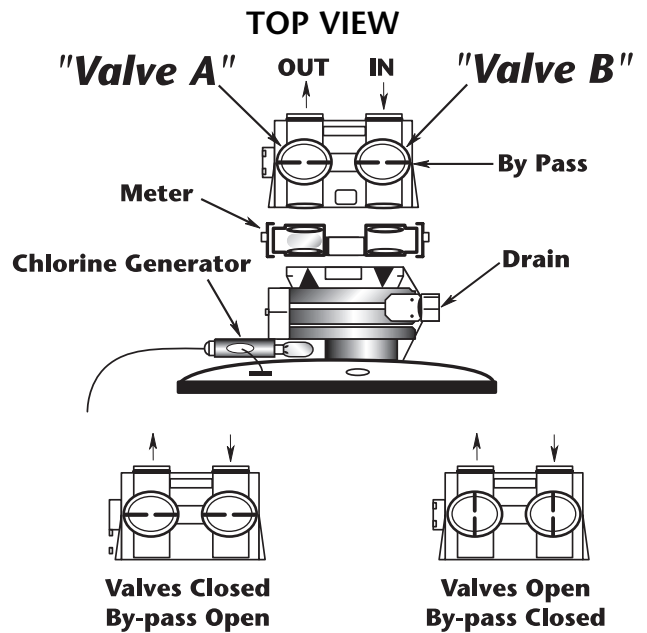
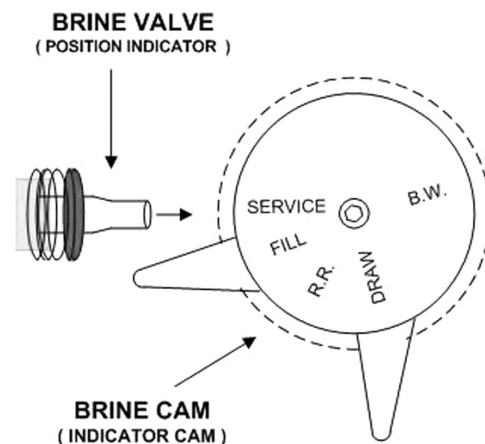

Figure 3
Figure 5
2. Install the chlorine generator on the brine valve (*Fig. 3*) by pulling the brine clip, inserting the generator and resealing the clip. Plug generator's electrical end into receiving adaptor in the back plate. Do not install brine line at this time.
3. Install meter and bypass, if ordered, (*Fig. 3*) using silicone grease provided on "O" Rings. Extra "O" Rings have also been provided in case a tear occurs during installation.
NOTE: Meter should be installed between the control valve and the bypass with the meter "turbine" being installed on the outlet side of the control valve (*Fig.3*).
- Notice on the casting, the inlet and outlet markings, make sure the incoming water is plumbed to the inlet and outlet is plumbed to service (*Fig. 3*). Your water softener must be installed with a bypass valve. If your conditioner is not equipped with one, make a provision in the plumbing system for a bypass to be installed.
- To “bypass” your water conditioner, turn valves A & B to the bypass open position (*Fig. 3*). This will supply unconditioned water to the house.
- After installation is complete, rotate bypass handles to bypass mode (*see "Valves Closed" in Fig.3*).
1. With the softener in the bypass mode ("*Bypass valve*," *Fig. 3*) and the control valve in normal operation where the display shows either the time of day or the gallons remaining:
2. Press and hold the *REGEN* button until the motor starts (3 seconds). Release button. It takes approximately 90 sec. to reach the backwash position. **See "Start an immediate extra cycle" section 4, page 10.** Once unit has reached the backwash position, unplug the transformer so that the valve does not cycle to the next position. Open the inlet handle ("*Valve B*," *Fig. 3*) of the bypass valve **very slightly** allowing water to fill the tank **slowly** in order to expel air. Once air is expelled and water is running at drain, open inlet to control.
8. Once the cycle operation has been verified. Place bypass valve in the normal operating mode ("*Valves Open*," *Fig. 3*) by opening the outlet bypass handle.
2. With the softener in the bypass mode ("*Bypass valve,*" Fig. 3) and the control valve in normal service position (Fig. 5),
NOTE: Fig. 5 depicts the valve in the service position. It will take approximately 90 seconds to reach the backwash position.
4. Once unit has reached the backwash position, unplug the transformer so that the valve does not cycle to the next position. Open the inlet handle ("*Valve B,*" Fig. 3) of the bypass valve **very slightly** allowing water to fill the tank **slowly** in order to expel air. Once air is expelled and water is running at drain, open inlet to control. Let water run for 5 minutes or until clear.
7. Manually index control to the Rapid Rinse position (RR). Check drain line to be secure and that drain can receive the flow of water. There should be a rapid flow to the drain. Unplug transformer to keep the valve in the RINSE position. Allow to run until clear and without air. While the unit is rinsing, load the brine tank with water softener salt.
10. Once the cycle operation has been verified, place bypass valve in the normal operating mode ("*Valves Open,*" Fig. 3) by opening the outlet bypass handle.